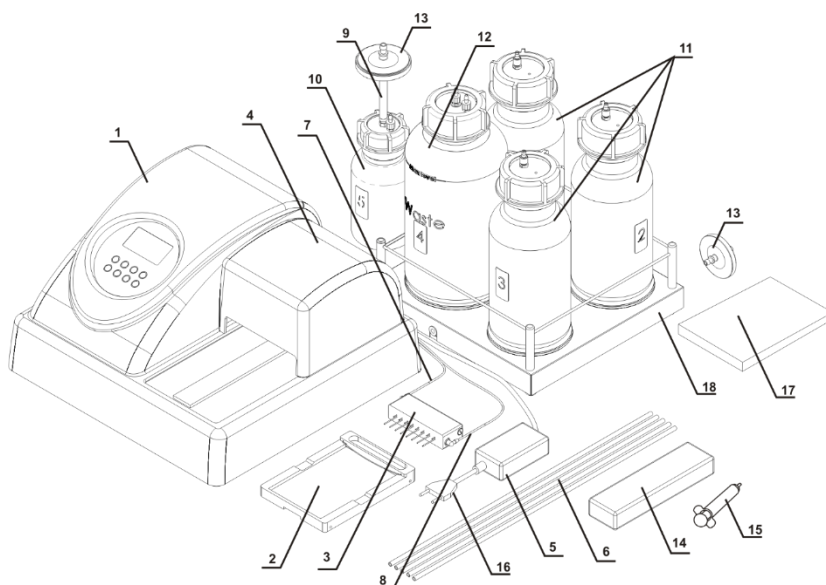
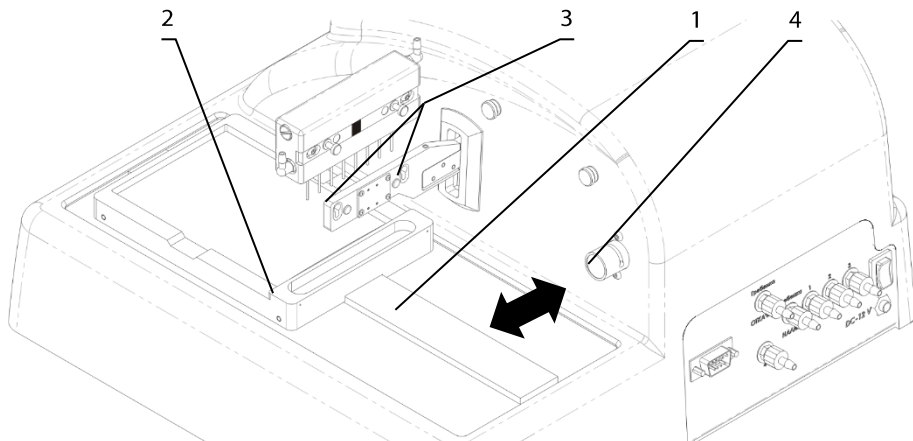
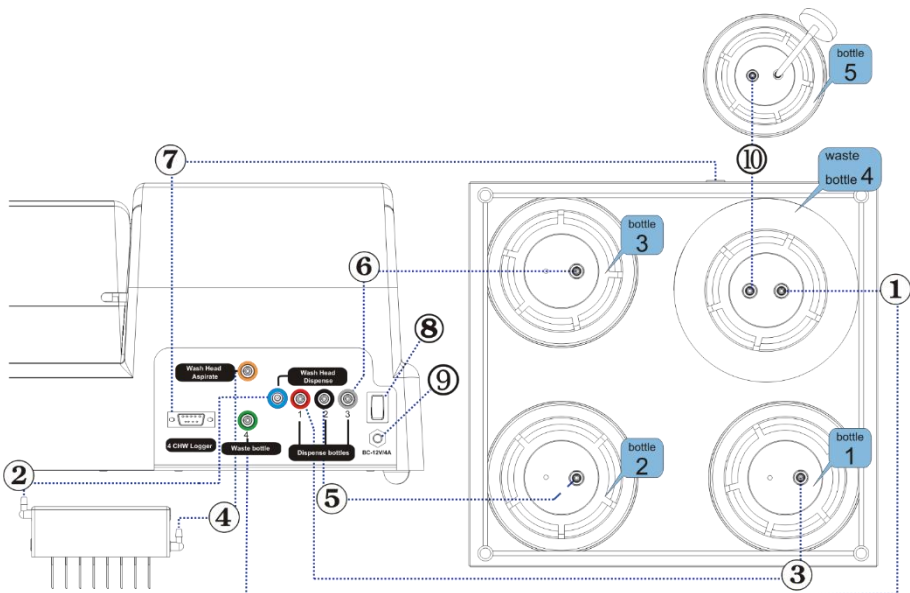

Figure 1. Complete set
Figure 2. Unit side and back overview. Setting up.
Figure 3. Assembly diagram
4.4.4. Place the plate platform on the railing (fig. 2/1) so that the plate holder (flat spring) faces the rear side of the unit (fig. 2/2). Magnet on the other side of the rail locks the platform into start position.
- 4.4.6. Install the manifold in the slots of the holder arm (fig. 2/3). Magnets in the manifold and the holder arm connect and align the manifold.
- 4.4.7. Connect the manifold inlet connector supplying the liquid and the **blue**-coloured **Washing Head Dispense** connector at the rear panel of the unit (fig. 3/2) with a tube (fig. 1/7).
- 4.4.8. Connect the manifold outlet connector and the **yellow**-coloured **Washing Head Aspire** connector at the rear panel of the unit (fig. 3/4) with a tube (fig. 1/8).
- 4.4.9. Connect the #4 **green**-coloured **Waste bottle** outlet on the rear side of the unit to the connector of 2-litre bottle #4 for waste liquid collecting (fig. 3/1).
- 4.4.10. Place the tube for the hydrophobic filter (fig. 1/9) on the connector of the half-litre bottle #5, then place the hydrophobic filter on the tube (fig. 1/13). Check that the "IN" marking on the filter is facing the bottle #5 (fig. 11).
- 4.4.11. Connect the Waste bottle #4 to the half-litre bottle #5 (fig. 3/10).
- 4.4.13. Connect the bottle #1 to the inlet connector (#1 – **red**, fig. 3/3) with a tube (fig. 1/6).
- 4.4.14. Connect the bottle #2 to the inlet connector (#2 – **black**, fig. 3/5) with a tube (fig. 1/6).
- 4.4.15. Connect the bottle #3 to the inlet connector (#3 – **white**, fig. 3/6) with a tube (fig. 1/6).
- 4.4.16. Insert the manifold tube (fig. 3/2) into the valve opening (fig. 2/4). Press the valve in the direction of the arrow and hold the valve while stretching the tube and pulling it through the opening. Release the valve.
- 4.4.19. If 4-channel weight logger is included in the kit, remove pads from underside of scale cups. Place bottles on the 4-channel weight logger according to the numbering. Connect the RS-232 with the cable to the plug connector on the rear side of the unit (fig. 3/7).
Before connecting the unit to the mains outlet, check that the power switch (fig. 3/9) is in position **O** (off).
- 4.5.1. Connect the external power supply to the power socket (fig. 3/8) on the rear panel of the unit.
- 4.5.2. Connect the power cord to the external power supply (fig. 1/16)
When working with the FastFRAME plates, remove the plate holder (fig. 2/2). Install it back when working with immunoplates.